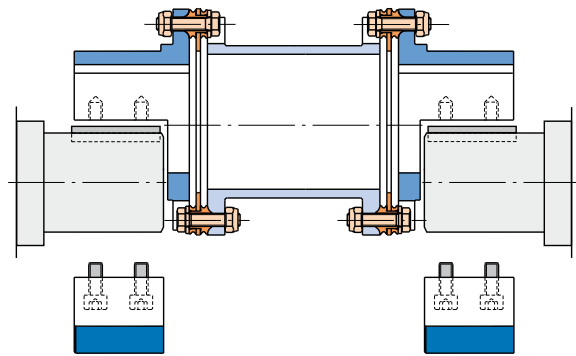

Fig. 110
- Place the coupling from above onto the shafts and partly assemble with the half shells (Fig. 110).